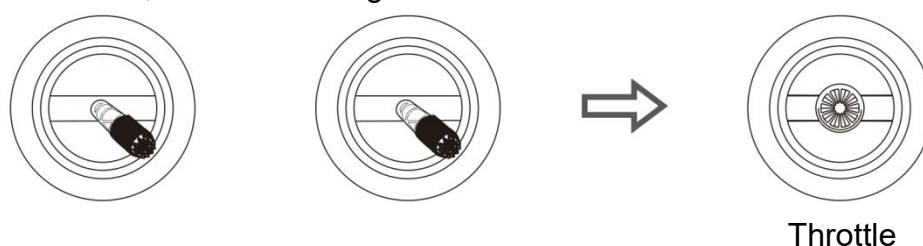

Figure2-3-3 Unlock and Hover
Step 5: The drone remains at its current altitude and hovers after the throttle lever is centered, as shown in Figure 2-3-3.